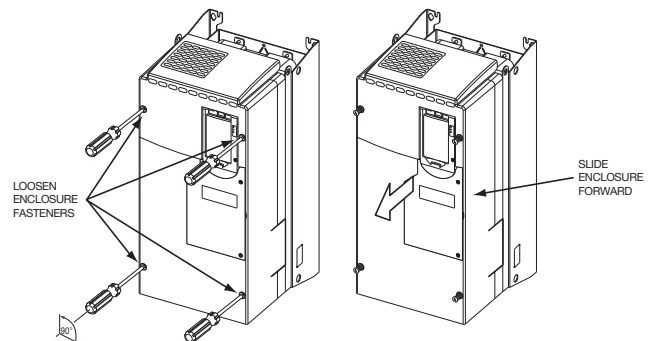

Fig. 19 — Removing Enclosure
3. Remove the enclosure. See Fig. 19.
7. Install the enclosure. See Fig. 19.
6. Install the enclosure. See Fig. 19.
- Install the enclosure. See Fig. 19.